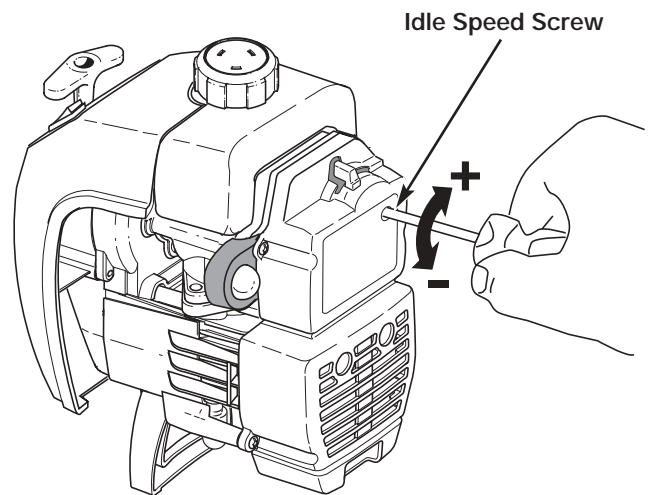

Figure 28
The idle speed of the engine is adjustable through the air filter/muffler cover. See Figure 28.
2. Release the throttle trigger and let the engine idle. If the engine stops, insert a small Phillips or flat blade screwdriver into the hole in the air filter/muffler cover. See Figure 28. Turn the idle speed screw in, clockwise, 1/8 of a turn at a time (as needed) until the engine idles smoothly.